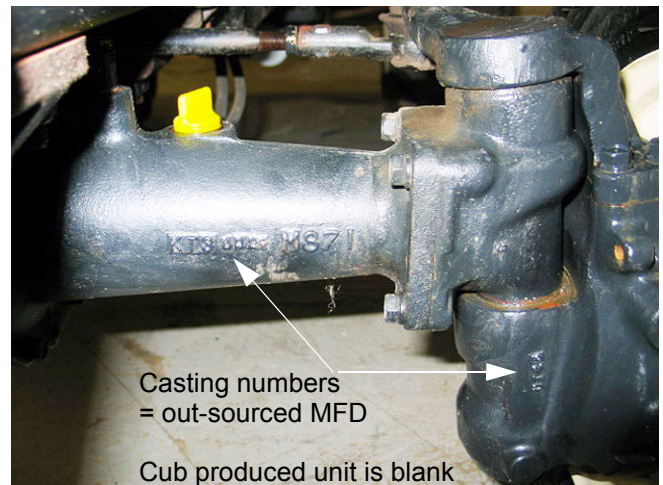

Figure 1.2
- 1.2. The out-source MFD has numbers embossed on most major components, the Cub Cadet Unit does not. See Figure 1.2.